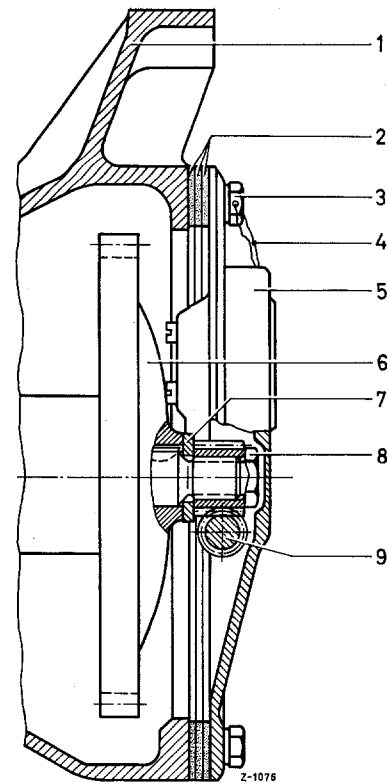

Figure 01-11/4
3. Unscrew the hex nut M 12 fixing the pump drive gear to the shaft and install the worm gear (8). In group I make sure that the worm gear is installed with the lock washer (7) (see Figure 01-11/4) and in group II the worm gear is mounted with spacer (10) and lock washer (7) (see Figure 01-11/2).
4. If the installed timing housing cover is without fit boreholes (2) (see Figure 01-11/3), carefully grind off the two dowel pins (3) in the protecting cover (see Figure 01-11/3). During this operation the drive gear of the operating time indicator must be protected against dirt.
**Caution!** On the engines of the group I three gaskets (2) 1.5 mm thick each must be used (see Figure 01-11/4), and on the engines of the group II only one gasket (2) 1.5 mm thick, so that the proper distance is obtained between the operating time
indicator and the worm gear. On engines of the group I the protecting cover must be fixed with 18 mm long screws, because the sealing is 3 mm thicker. Standard screws 15 mm long can be used for the engines of the group II. The two screws with the holes for the seal wire are installed on top and at the right-hand side in both cases (see Figure 01-11/1).
**Note:** The adjusting of the mesh and the grinding of the dowel pins on the protecting cover is not applicable if the timing housing cover without fit boreholes is exchanged for a new one according to Part No. 636 010 20 17 or 636 010 16 17 with fit boreholes and reinforced bearing. The proper gearing is guaranteed by the dowel pins of this version (see Figure 01-11/3).
8. Guard the two fixing screws with seal wire and lead-seal (see Figure 01-11/1).